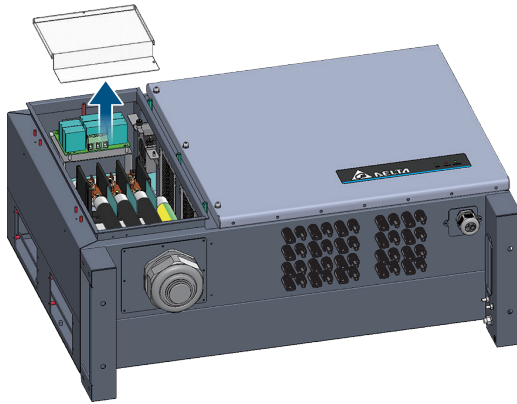

Figure 5-21: Remove the internal fan 2 shield cover
(See **Figure 5-21, 5-22, 5-23, 5-24**)
- (1) Remove the shield cover. (shown in **Figure 5-21**)